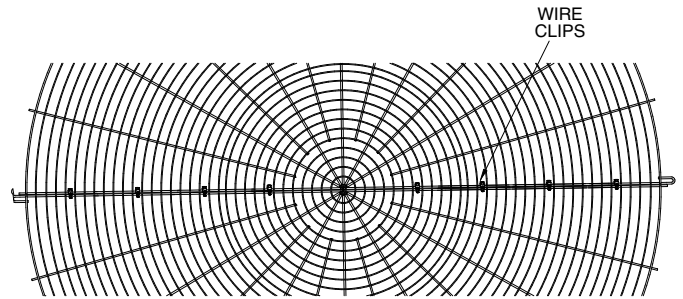
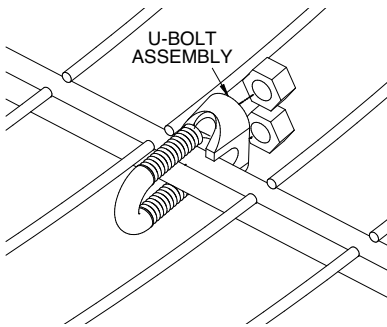

Figure 12 – Wire Clip Spacing
Figure 11 – Wire Clip Arrangement
1. Lay both halves of the fan screen on the ground. Join the two screen halves with wire clips (Figure 11). There should be 4 wire clips on each side of the fan screen for 12' (3.6m) and 14' (4.2m) wide units. Space the wire clips evenly across the radius of the fan screen as shown in Figure 12.